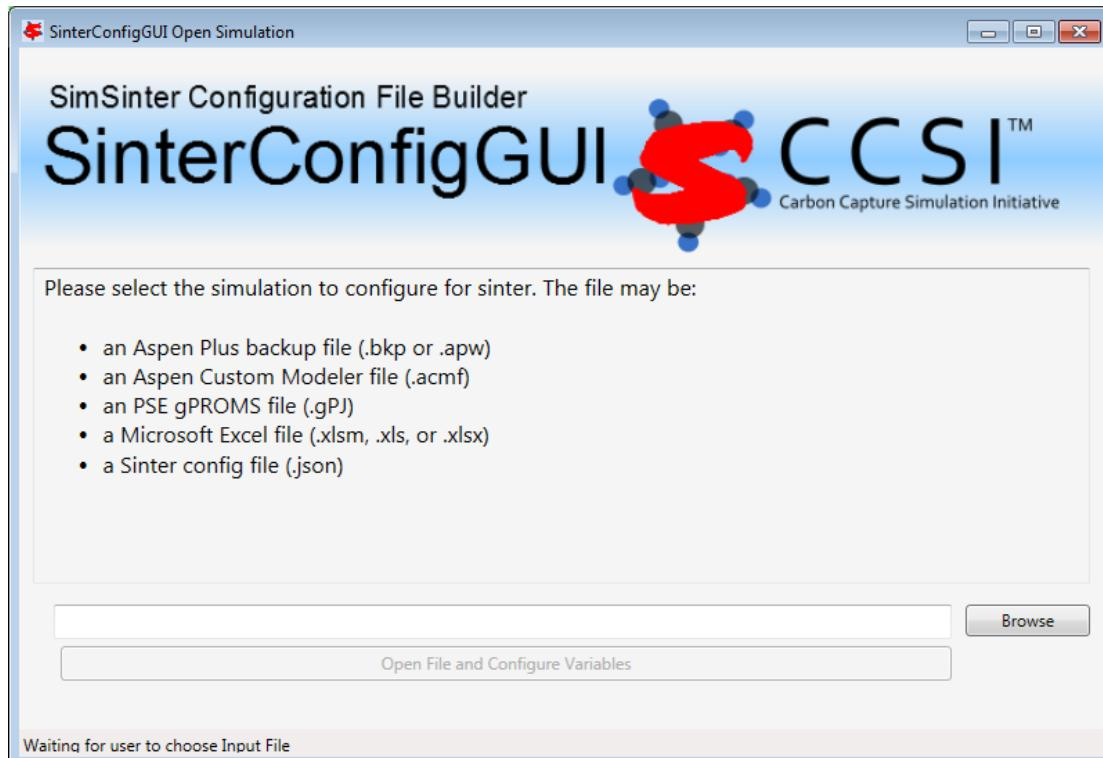

Figure 28: SinterConfigGUI Open Simulation window.
3. The SinterConfigGUI Open Simulation window displays as shown in Figure 28. Click “Browse” to select the file to open and then click “Open File and Configure Variables” to open the file. The user can either open a fresh Microsoft Excel simulation (.xlsm, .xls, or .xlsx file) or an existing Sinter configuration file. In these instructions, a fresh copy of the BMI test is opened. It can be found at: C:\SimSinterFiles\Excel_Install_Test\exceltest.xlsm.